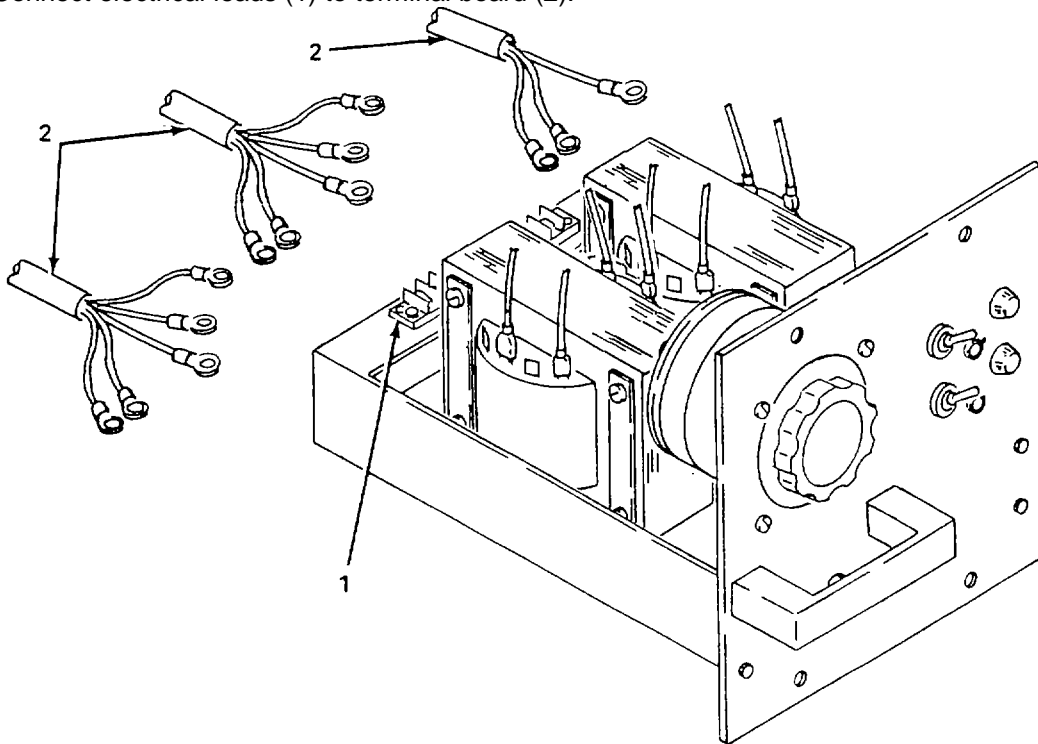

Figure 5-21. Double Light Power Supply (Inner Lock) Power and Light Cords, Replace.
(5) *Replace power and light cords.* (figure 5-21)